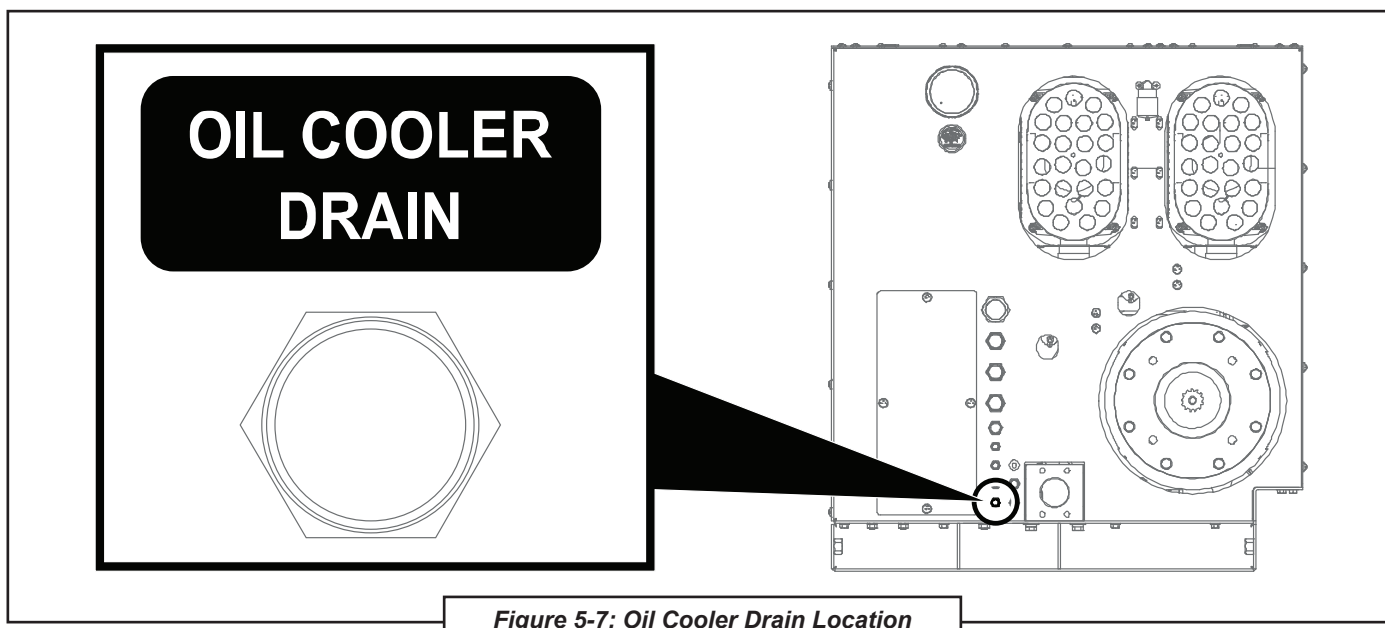

Figure 5-7: Oil Cooler Drain Location
2. Drain oil cooler (*Figure 5-7*).